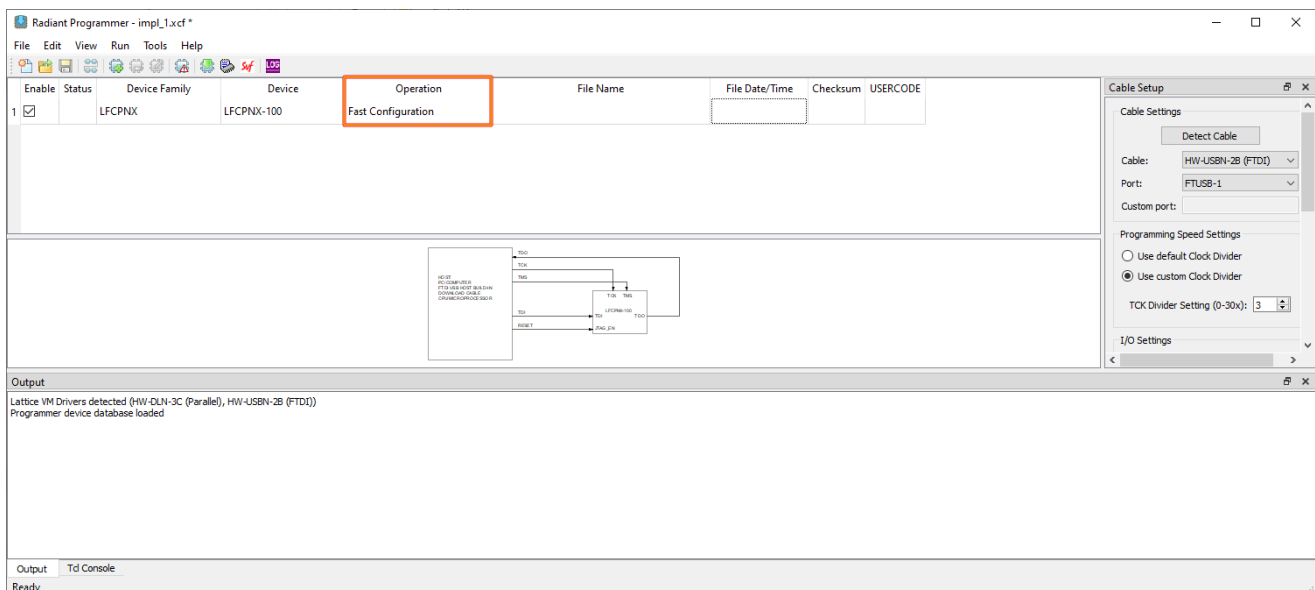

Figure 4.2. Radiant Programmer Main Window
7. The main interface opens, as shown in Figure 4.2. Double-click **Fast Configuration** under **Operation**.